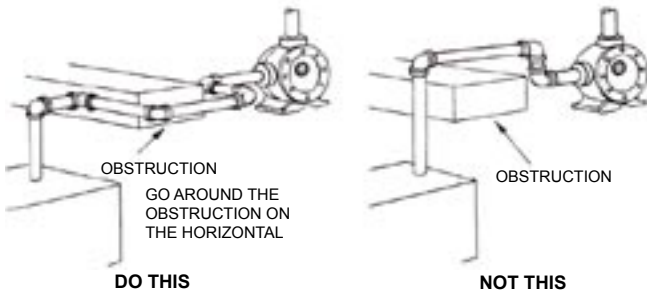

FIGURE 10
4. When approaching an obstacle in the suction or discharge line, go around the obstacle instead of over it. Going over it creates an air pocket. See Figure 10.